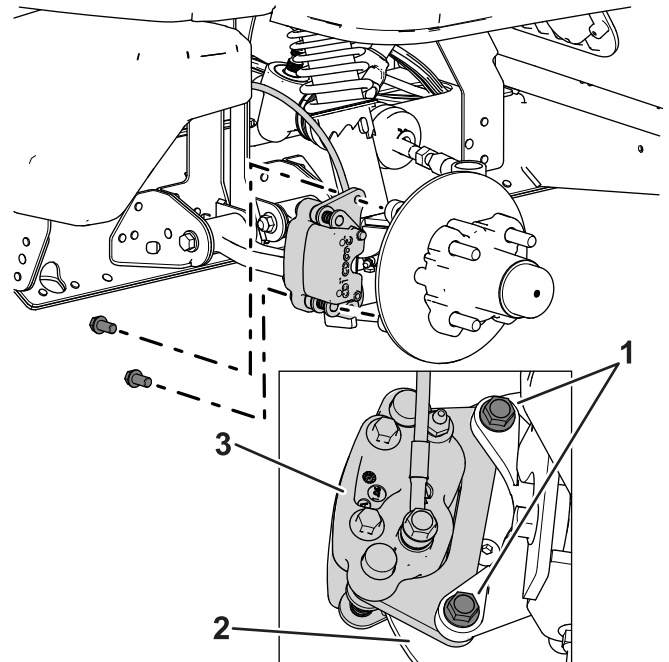
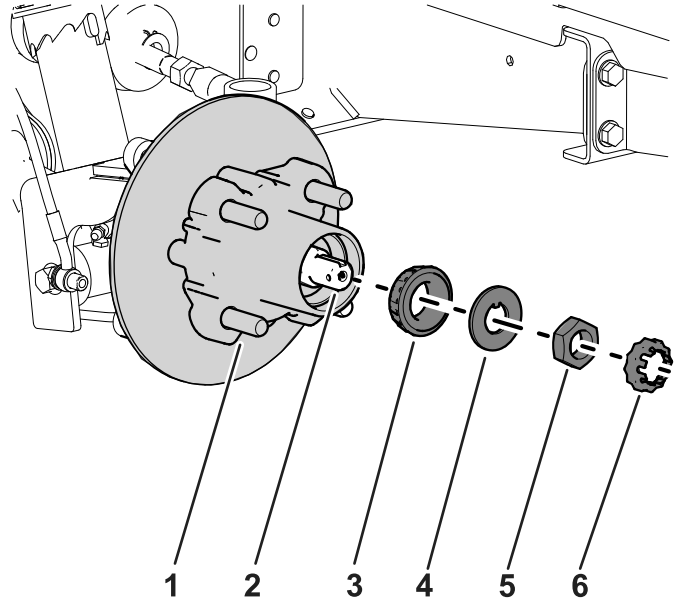

Figure 33
Figure 37
3. Remove the flange-head bolts (3/8 x 3/4 inch) that secure the caliper bracket to the spindle and separate the brake from the spindle (Figure 33).
1. Apply a light coat of the specified grease to the spindle (Figure 37).
2. Assemble the hub and rotor onto the spindle with the rotor inboard (Figure 37).
3. Assemble the outboard bearing onto the spindle and seat the bearing to the outboard race (Figure 37).
4. Assemble the tab washer onto the spindle (Figure 37).
5. Thread the spindle nut onto the spindle and tighten the nut to 15 N·m (11 ft-lb), while rotating the hub to seat the bearing (Figure 37).
2. Align the brake pads to either side of the rotor (Figure 33) and the holes in the caliper bracket with the holes in the brake mount of the spindle frame (Figure 37).
3. Secure the caliper bracket to the spindle frame (Figure 33) using the 2 flange-head bolts (3/8 x 3/4 inch).